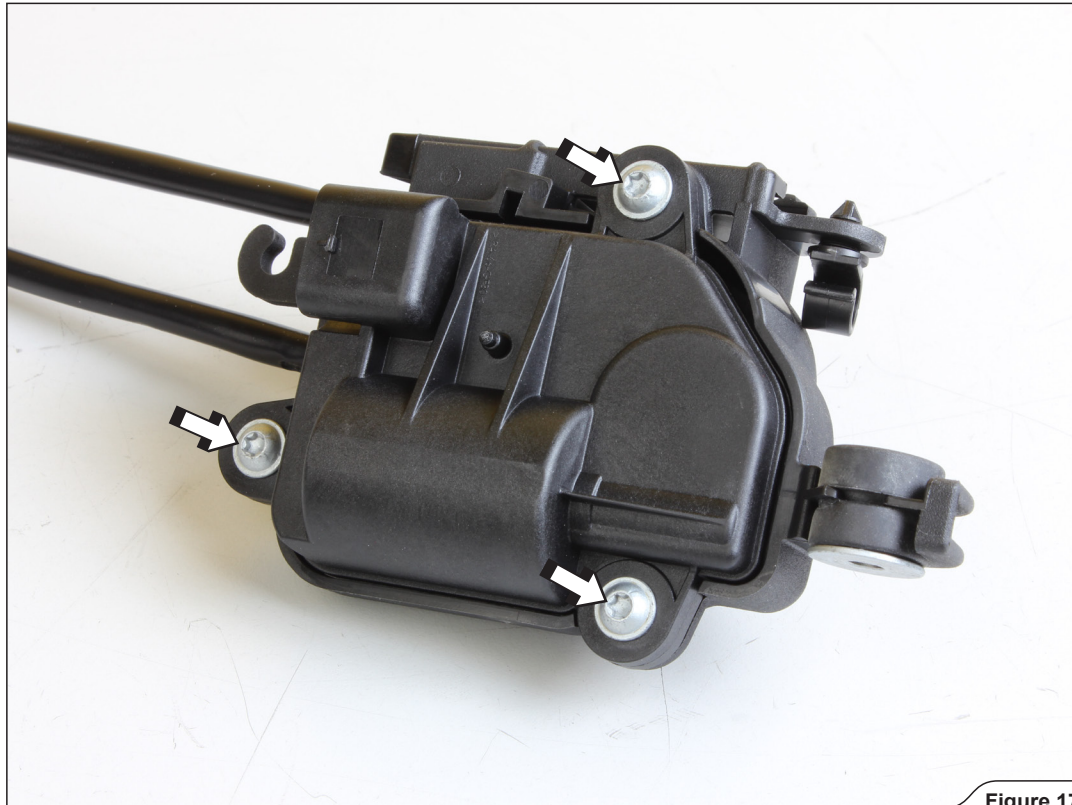

Figure 17
12. Unscrew the servo motor's cover, remove the cables and reinstall the cover (Figure 17, 18, 19).